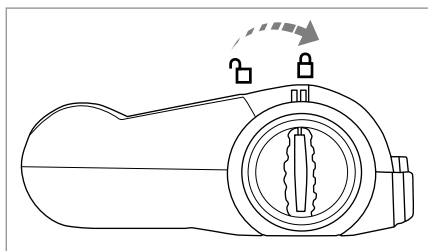

Fig. 9
- 5) Insert the rotary brush **18** into the floor nozzle **16** and turn the rotary brush release **17** toward the symbol  (closed) (Fig. 9).